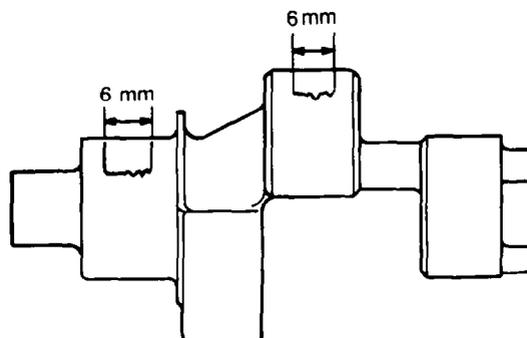

Figure 27 — Crack Testing — Crankshaft
- ap. It is permissible for the crankshaft to be used without grinding or reconditioning where the crankshaft displays open longitudinal cracks less than six mm length, closed longitudinal cracks less than 22 mm length, or longitudinal indentations less than six mm length on the bearing journals (see Fig. 27). Any other cracks or conditions are unacceptable on the crankshaft, replace the crankshaft as required.